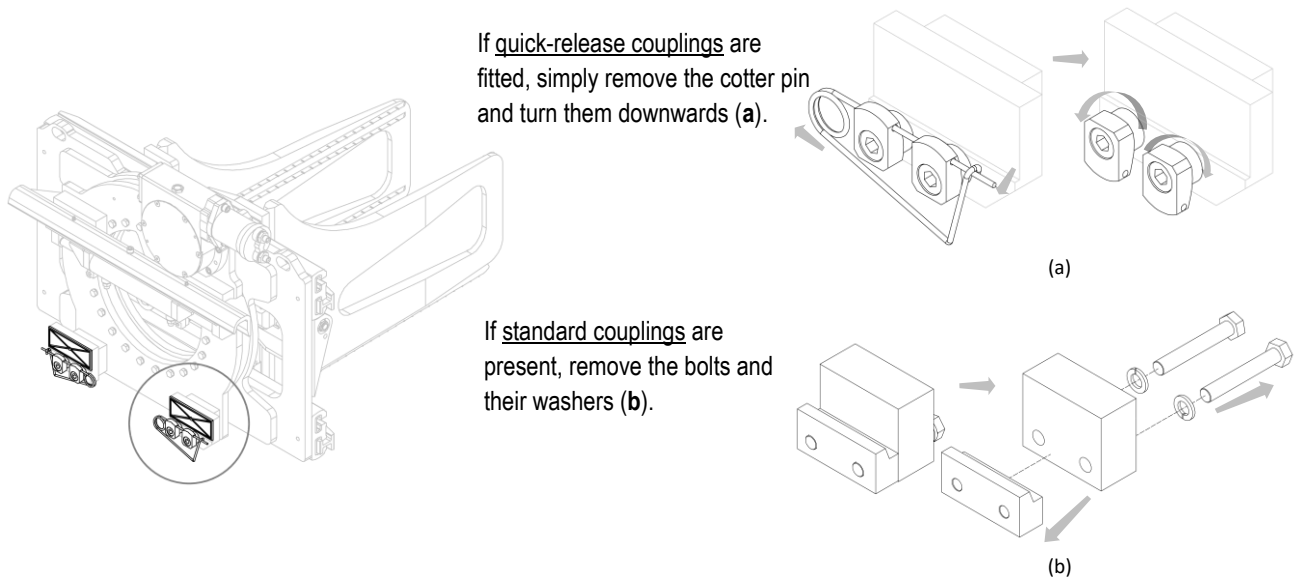

Figure 7
- Remove the lower couplings from the equipment and grease the sliding gibs (see *Figure 7*).